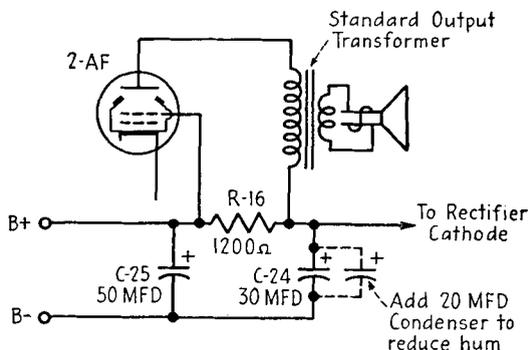

FIG. 18-29. Replacing a hum-bucking-type output transformer, method 1.
1. Use the circuit of Fig. 18-29. In case the hum level is high, it may be reduced by adding a 20-mfd/150-volt condenser as shown by the dotted lines.